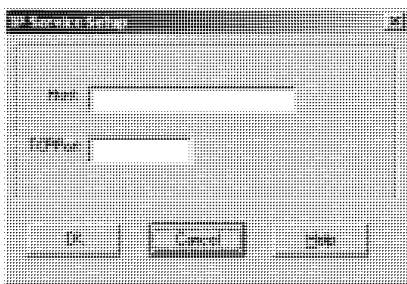

Figure 28: IP Service Setup Dialog Box
3. Click the **Add IP** button. The IP Service Setup dialog box appears (see Figure 28).